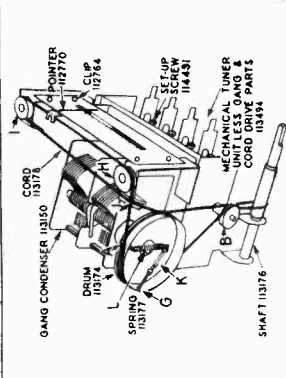

FIG 1
1. Close the gang condenser. The set screw in the drum, Fig. 1, must be set at the dial cord to the spring L and thread the other end through hole A and down the front of the drum to the tuning shaft. Coat the drum with oil. Then turn the dial drive drum clockwise until the dial cord is tight. Then turn the dial drive drum clockwise until the dial cord is tight. Thread the cord through hole A and tie the other end to spring L. Tie the cord so that spring L will be extended to about 1/4 inch.